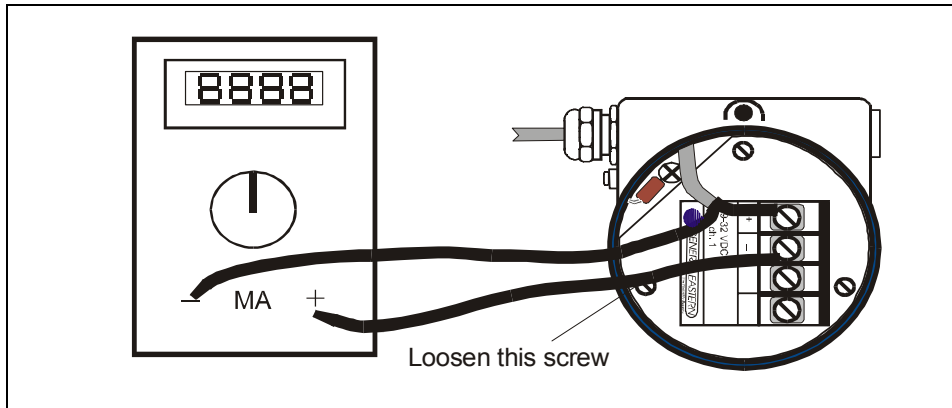

Fig. 14
- Unscrew the screw located on the blue flap (see Figure 14)